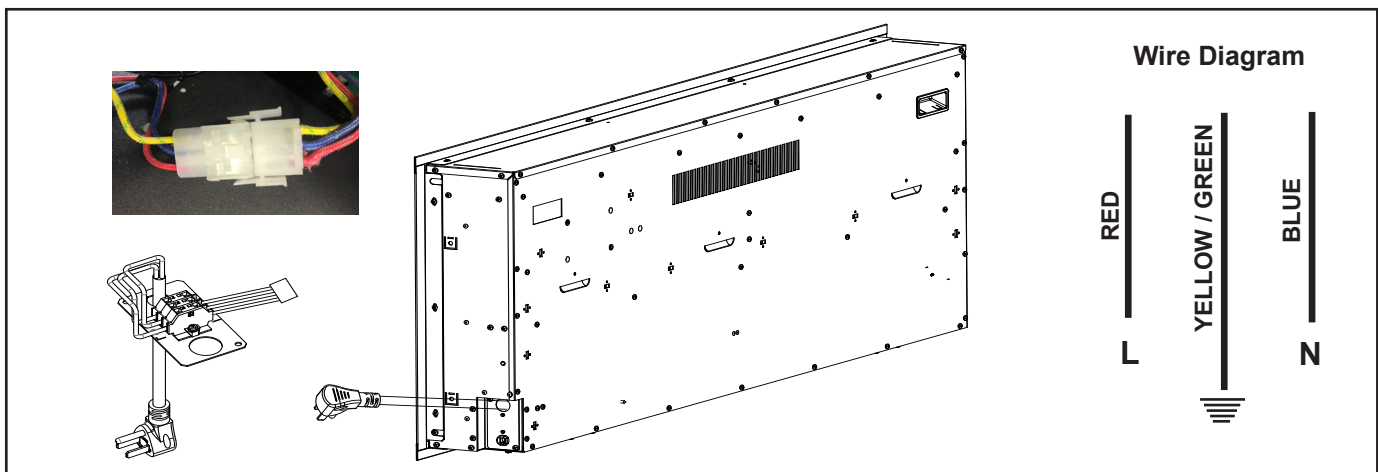

Figure 25 Optional Power Cord Assembly (Only for Direct Wall Mount Installation)
3. Connect the three conductor wire connector to the connector on the block supplied with the power cord kit. See Figure 25.